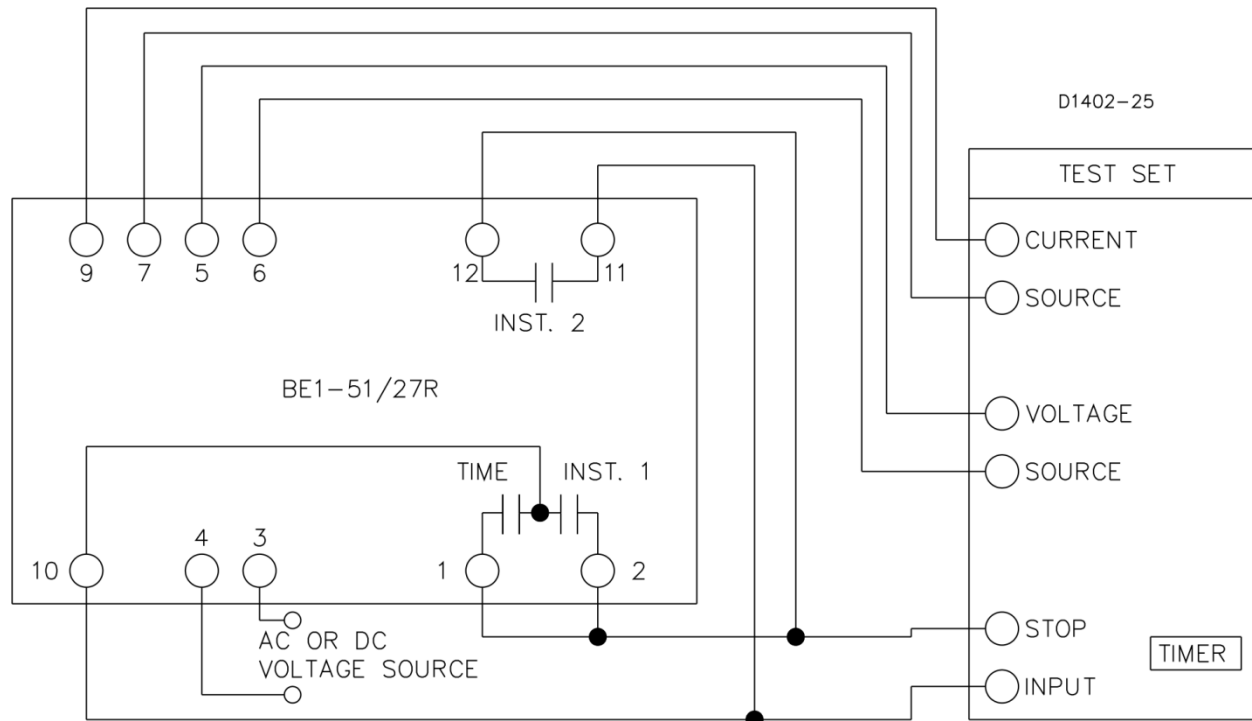

Figure 5-1. Test Setup for Sensing Input Type M or N (Single-Phase Sensing)
Step 1. Connect the relay test setup in accordance with Figures 5-1 through 5-6, depending upon the sensing input type for your relay (see the style chart in the *General Information* chapter).
- (a) *Sensing Input Type M or N (Single-Phase Sensing)*. Refer to Figure 5-1.